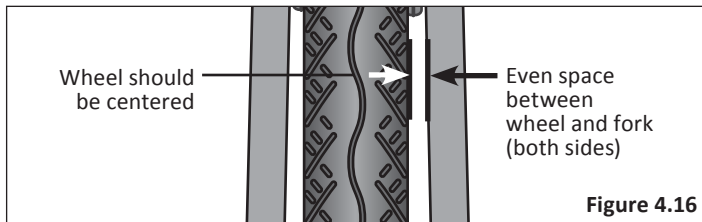

Figure 4.16
- 1 Rotate the wheel and look at the gap between the rim and fork. If the gap is uneven, loosen the axle nuts and adjust until the wheel and disc rotor are centered. **Figure 4.16**